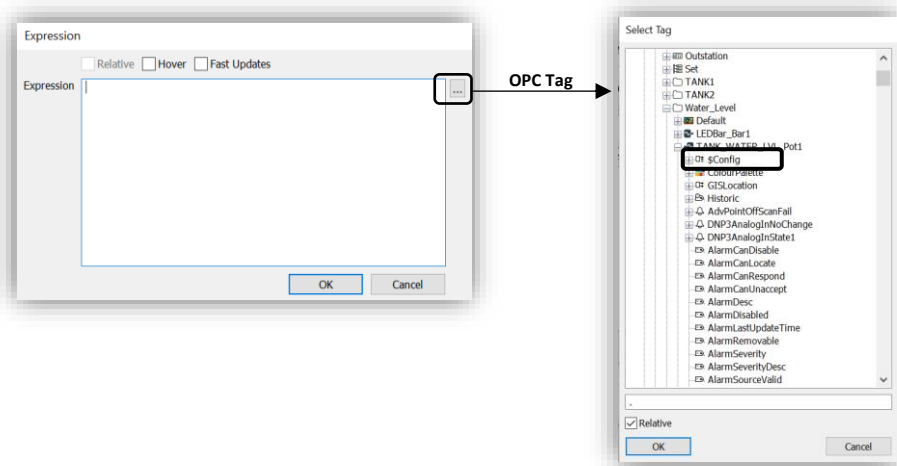

Figure 47. Find animation property to animate TANK_WATER_LVL_Pot1
- In **Select Tag** dialog go to tab **GroupName>WaterLevel folder>TANK_WATER_LVL_Pot1>\$Config** (Figure 47).